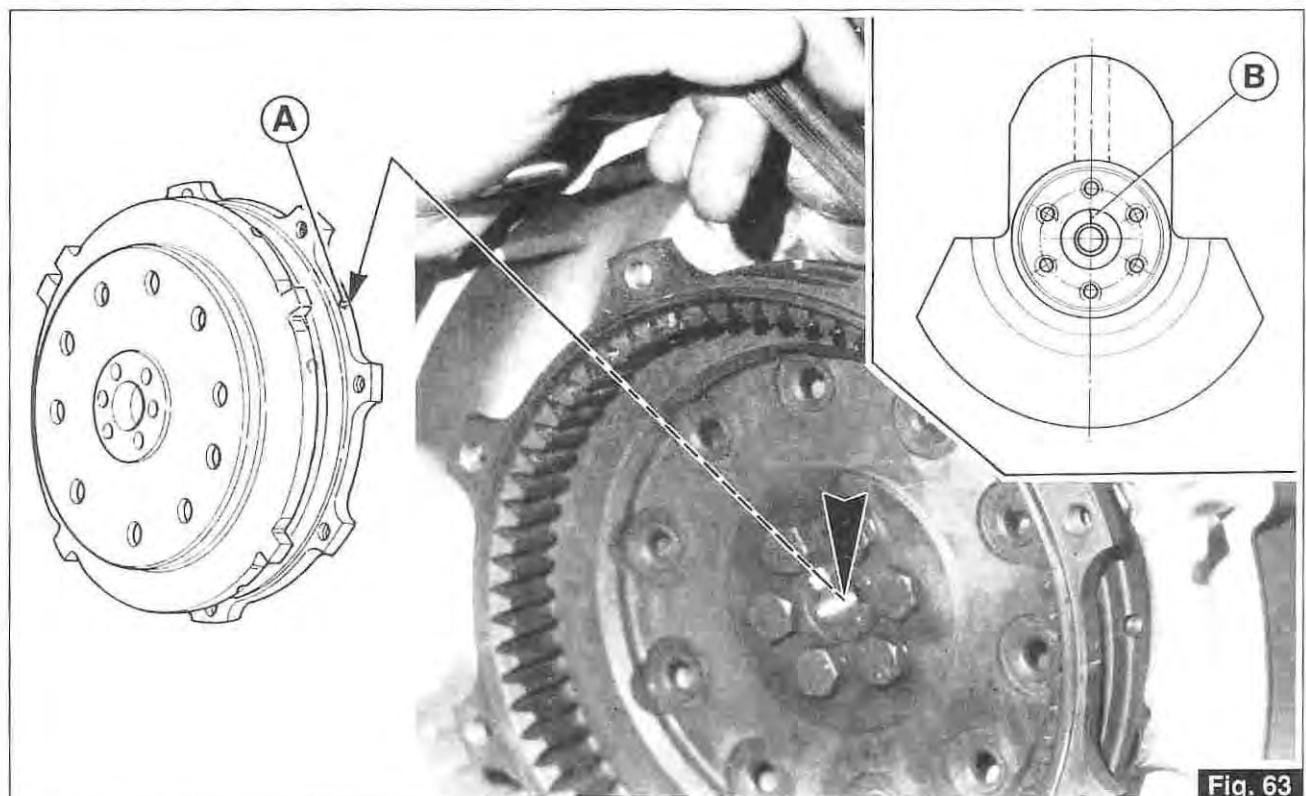

Fig. 63
- When refitting flywheel to crankshaft, line up the timing marks as shown in figure 63 (arrow «A» stamped on the engine flywheel must be lined up with mark «B» on the crankshaft).